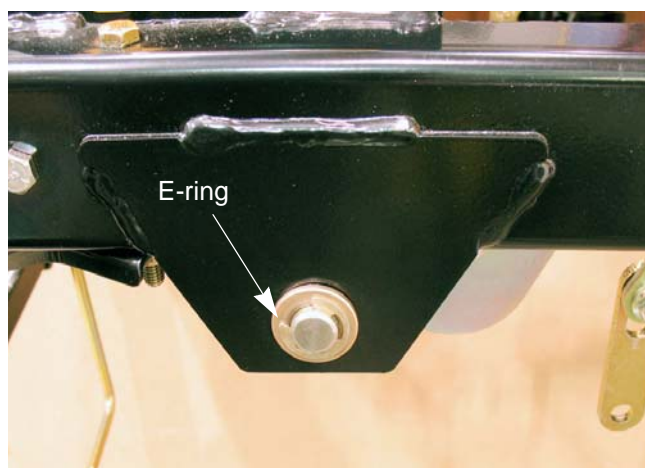

Figure 8.35
3. Remove the E-ring that secures the deck lift pedal lever to the frame. See Figure 8.35.